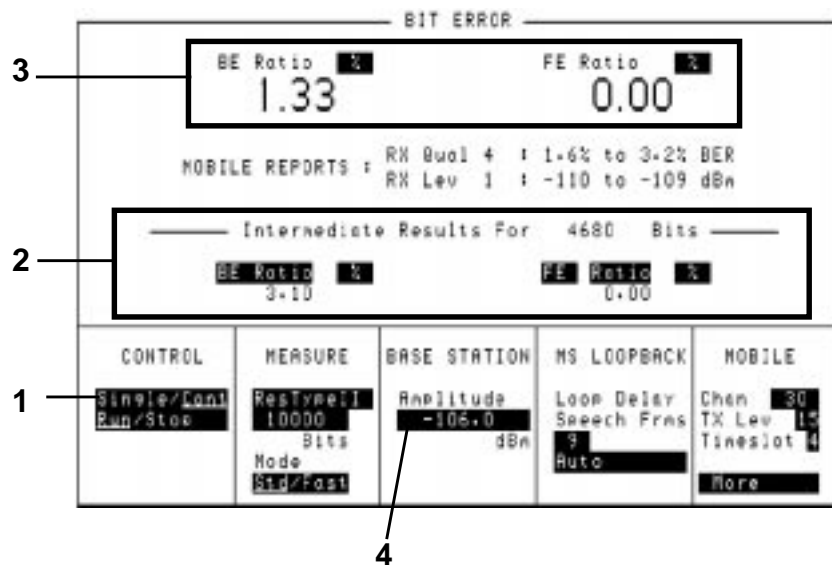

Figure 2-10 Bit Error Rate Measurement
This test will run automatically if you set the **Single/Cont** field to CONT. To run a test set the **Run/Stop** field to RUN. This toggle field start/stops the BER test (1) ratio, see Figure 2-10 on page 2-19.